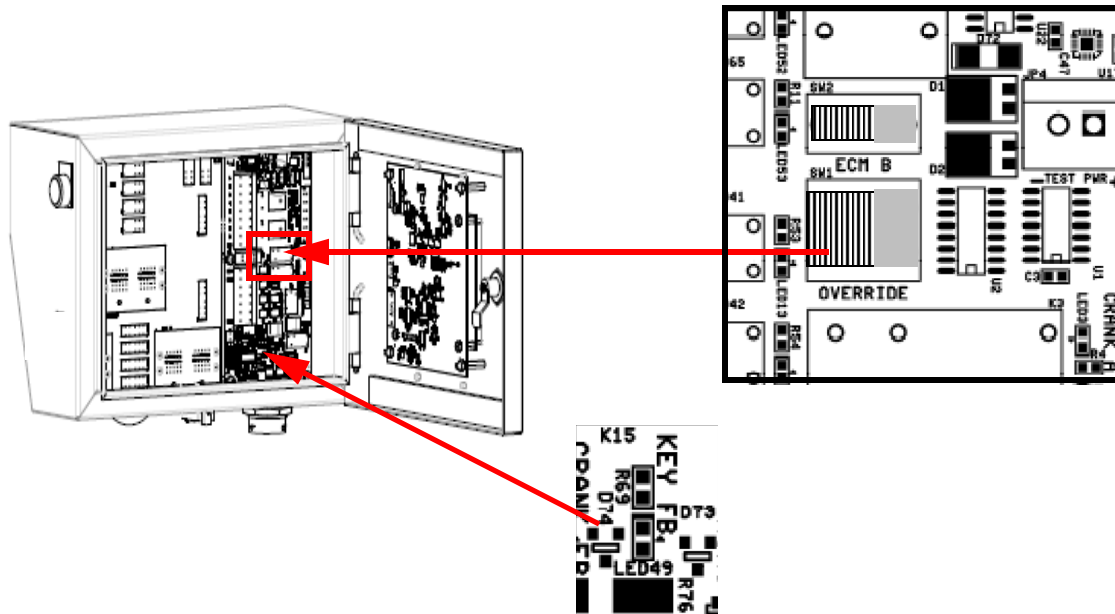

Figure 4-2 FPDP override switch
2. As shown in Figure 4-2, open the FPDP panel door and slide the key switch override to the “RIGHT” position. Verify that LED 49 - KEY FB (key feedback) switch is lit.